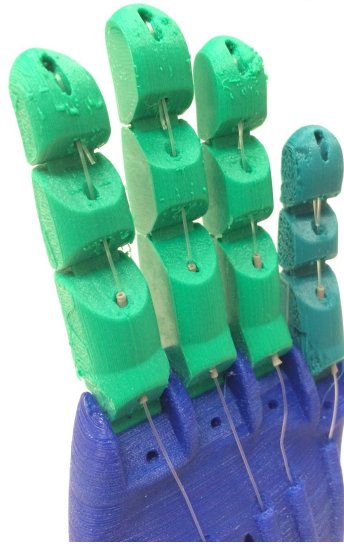

Fig.12: AWG Wire Tubing
- Strip 5 1 inch segments of 22 AWG wire and keep the external casing. This prevents the filament of each wire from cutting through the top of the phalanx over time. Using super glue, attach each segment into the proximal phalanx of each finger (Fig.12)